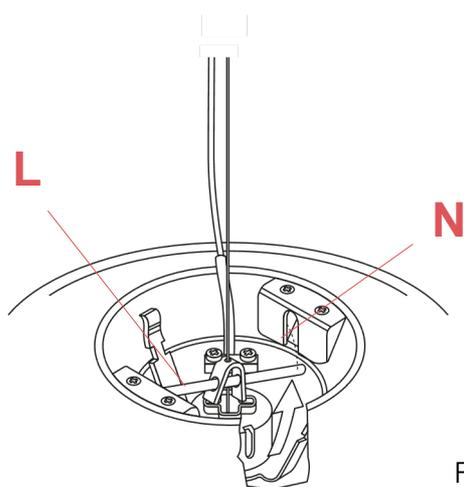

Fig.8
Hook the rod (L) into the housing (N), until it locks "clicks - in". (fig.8)